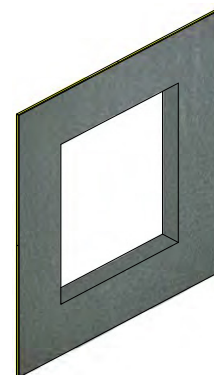

Figure 19
13. Apply a second coat of MasterSeal AWB 660, MasterSeal AWB 665 or MasterSeal AWB 660 I. This is typically done when applying MasterSeal AWB onto sheathing. (See Figure 19).